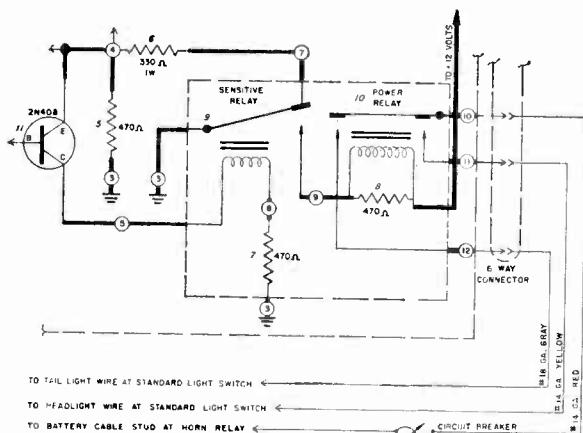

Fig. 5
(1) the transistor base voltage is higher than the emitter voltage and the transistor is not conducting. As light is reduced on the photocell (1) the base voltage drops and the collector current increases.
**RELAY CIRCUIT** (See Fig. 5). The armature of the sensitive relay (9) is connected to one end of the power relay (10) coil.
Resistor (8), Fig. 5, is used to protect the sensitive relay points by reducing the amount of inductive kick-back when the power relay (10) is actuated.